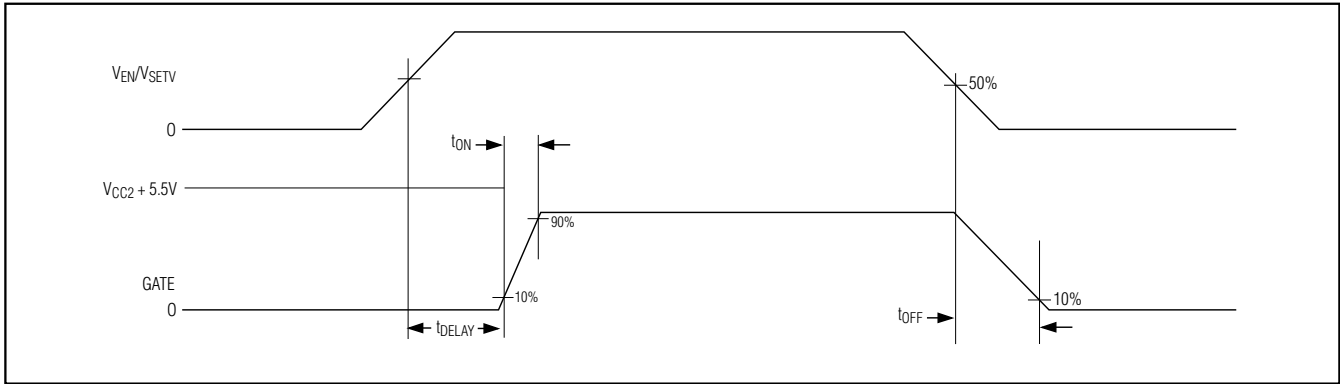

Figure 3. Timing Diagram
The MAX6819 offers a logic-compatible enable input (EN) that allows digital devices to control sequencing. When the TTL/CMOS-compatible EN input is logic-low, the GATE output is low. When the EN input is logic-high (and SETV is above the monitor threshold), the GATE output is enabled after an internally fixed 200ms delay. For a logic-controlled sequencer when voltage monitoring is not desired, connect SETV to  $V_{CC1}$  or  $V_{CC2} > 0.62V$  (Figure 3).